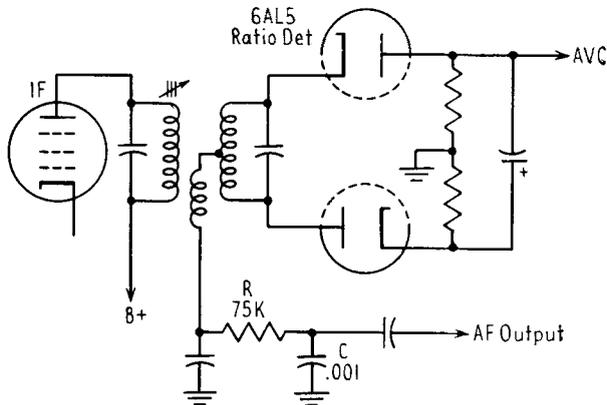

FIG. 24-15. A typical ratio detector circuit.
**The Ratio detector.** Before leaving the analysis of the F-M radio, reference must be made to a second type of detector that is also used. This is the ratio detector. In Fig. 24-15 is shown the circuit of a typical ratio detector. Its function is the same as that of the discriminator, namely, to change the rate of frequency variations into voltage variations fed to the AF section. Note, however, that the detector is fed directly by an IF amplifier, not a limiter. It is a characteristic of the ratio detector that it does its own limiting. Such a setup saves the manufacturer one stage.